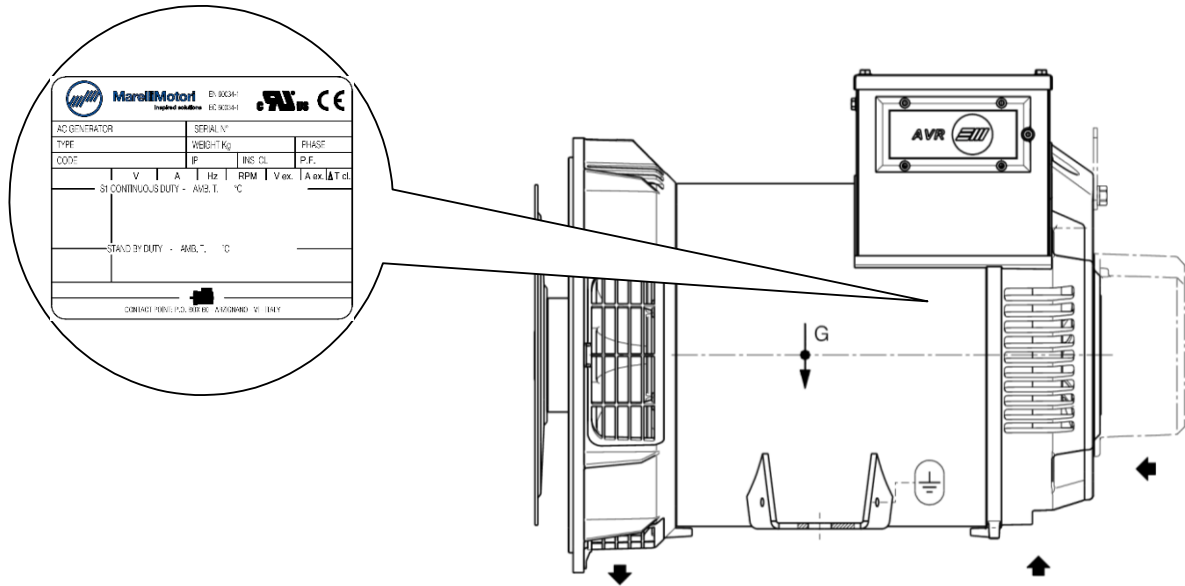

Fig. 21
6. Remove the adhesive part from the support and apply it as shown in fig. 21, pressing it with a rubber roller for better adherence.